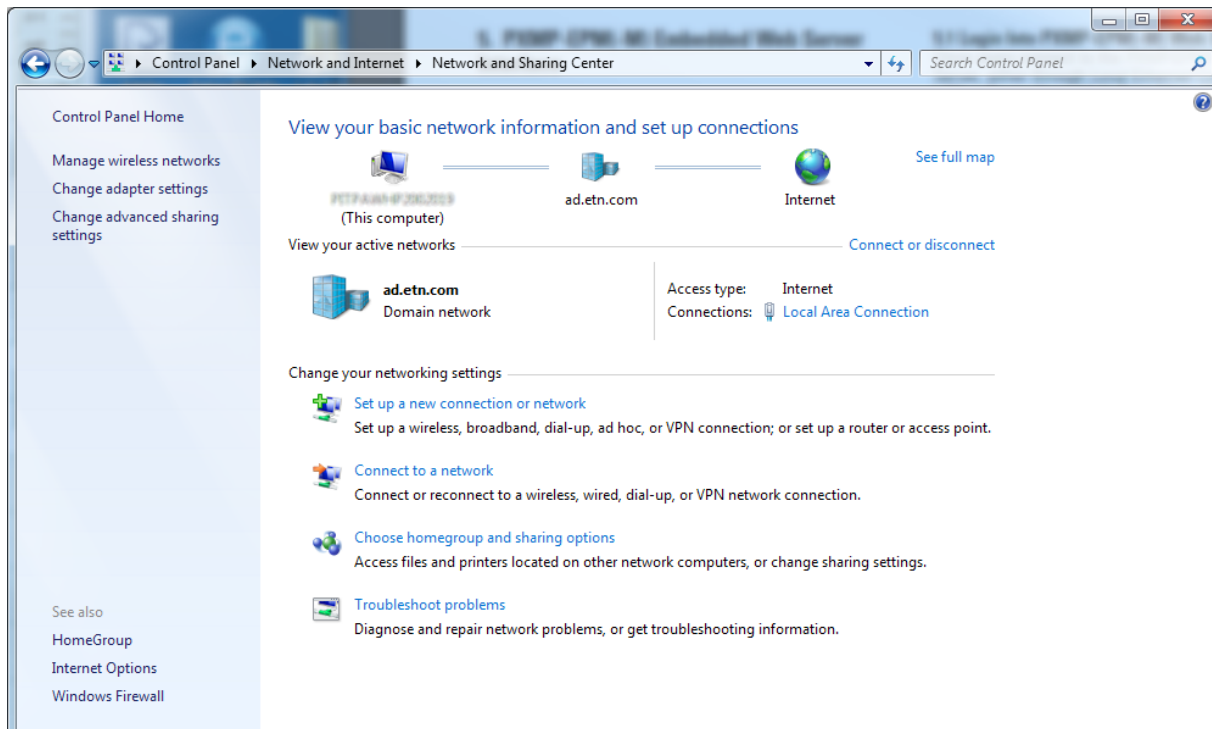
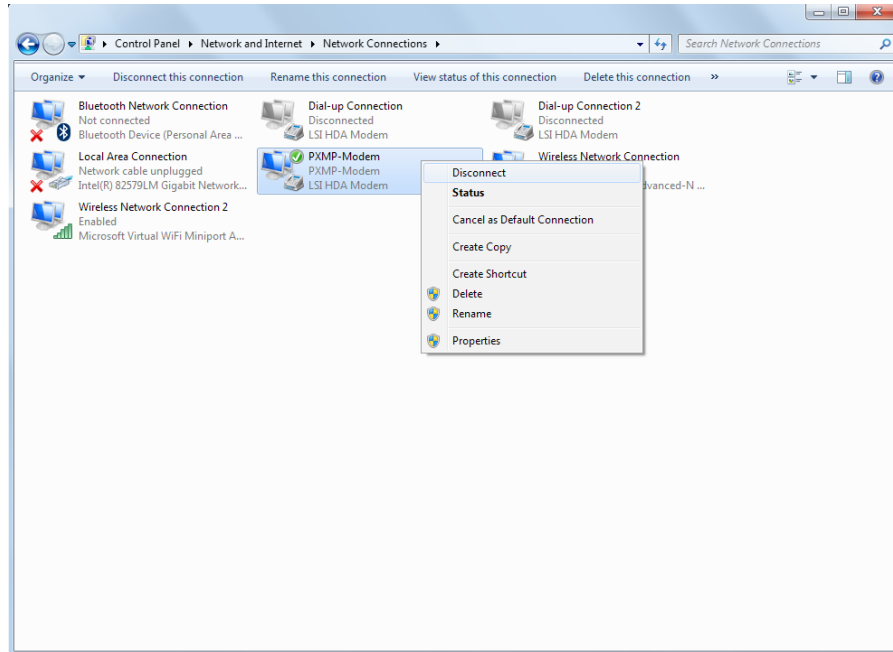
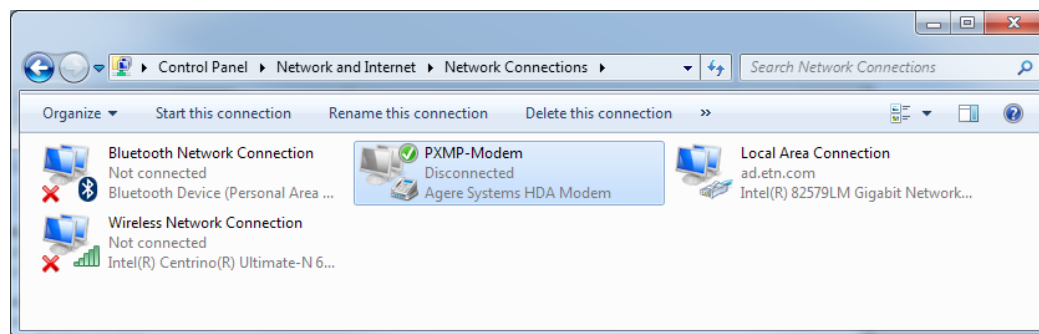
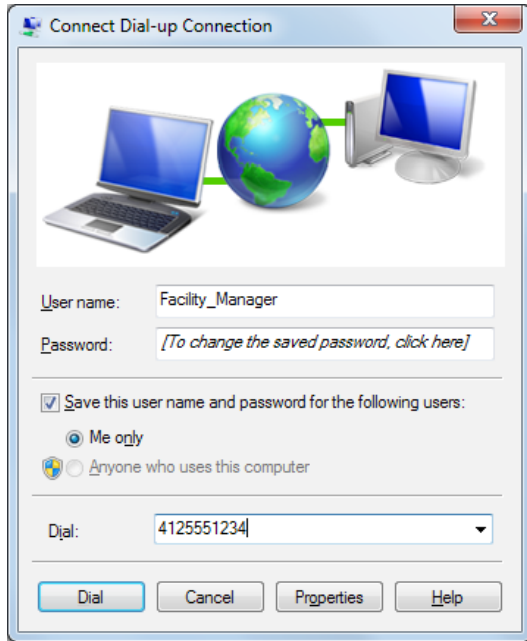

Figure 59. Network and Sharing Center.
Figure 64. Disconnect Modem Connection.
Figure 65. Modem Connection.
Figure 66. Connect Dial-up Connection.
2. In Control Panel, click Network and Internet > Network and Sharing Center > Set up a new connection or network (see Figure 59).
7. To disconnect from the PXMP-EPM-M module's modem, in Network and Sharing Center (Figure 59), click the Change adapter settings on the left. A Network Connections window, similar to the one shown in Figure 64, appears. In the example shown in Figure 64, "PXMP-Modem" is a currently active modem connection. Right-click the active modem connection and select Disconnect from the context menu. Once the PC is disconnected from the PXMP-EPM-M module's modem, the modem connection status become Disconnected, as shown in Figure 65.
8. To reconnect to the same PXMP-EPM-M module, select the previously established connection in Control Panel > Network and Internet > Network Connections. In the example shown in Figure 65, the "PXMP-Modem" connection is selected.
- Double-click the selected modem connection in Figure 65, a window similar to the one shown in Figure 66 appears. The Facility Manager needs to confirm that the information in User name, Password and Dial is correct. Click the "Dial" button to proceed and reconnect to the PXMP-EPM-M module's modem.